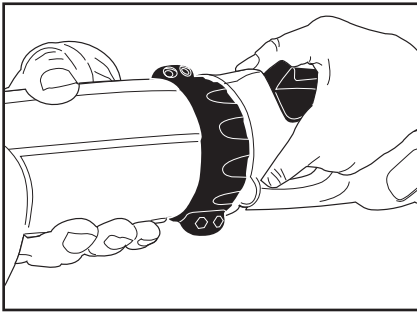

Figure 7
2. Insert the male end of the power handle interface into the female socket in the end of the extension pole making sure that it is firmly seated. (see figure 7) The interface is keyed so that it will only go together one way. The handle and pole should go together easily. If you experience resistance in putting them together, check that the keys on the handle are properly aligned with the slots in the pole.